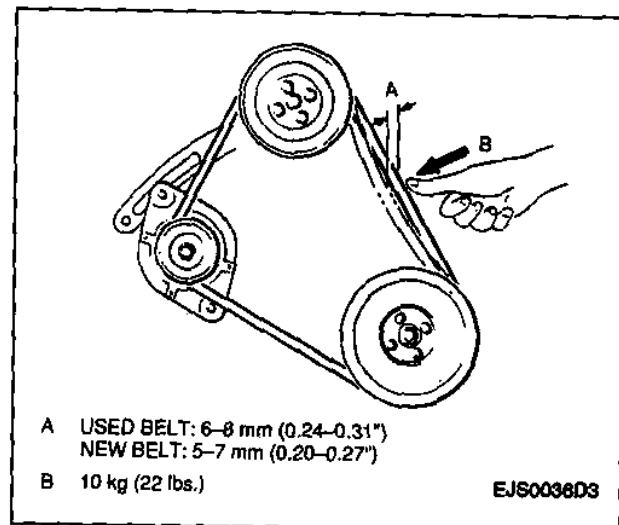

Figure 3—Drive Belt Tension
- Drive belt to obtain a 6 to 8 mm (0.24 to 0.31-inch) deflection with 10 kg (22 lbs.) pressure exerted when reinstalling a used belt (Figure 3).
- Drive belt to obtain a 5 to 7 mm (0.20 to 0.27-inch) deflection with 10 kg (22 lbs.) pressure exerted when reinstalling a new belt (Figure 3).